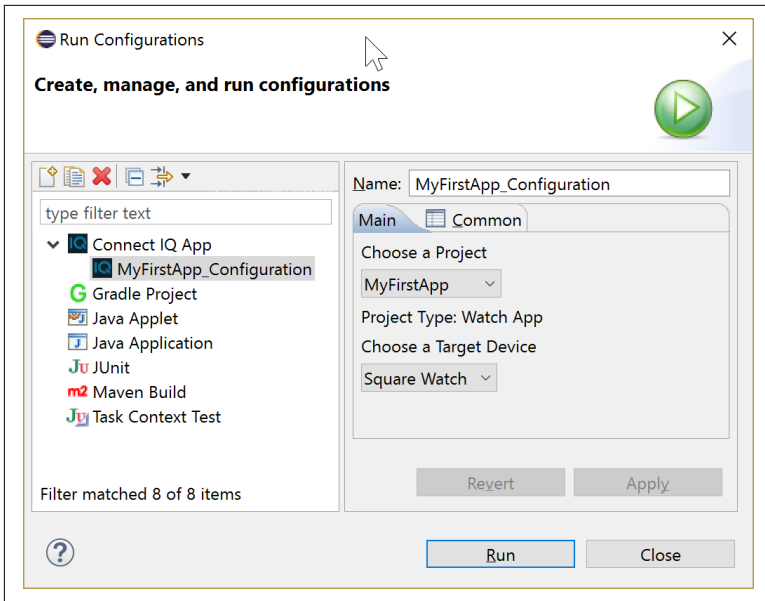

Figure 3-2. Running your first app
2. Finally, return to Eclipse, click the Run menu, and select Run Configurations. Select the configuration you created earlier, and click Run, as shown in Figure 3-2.